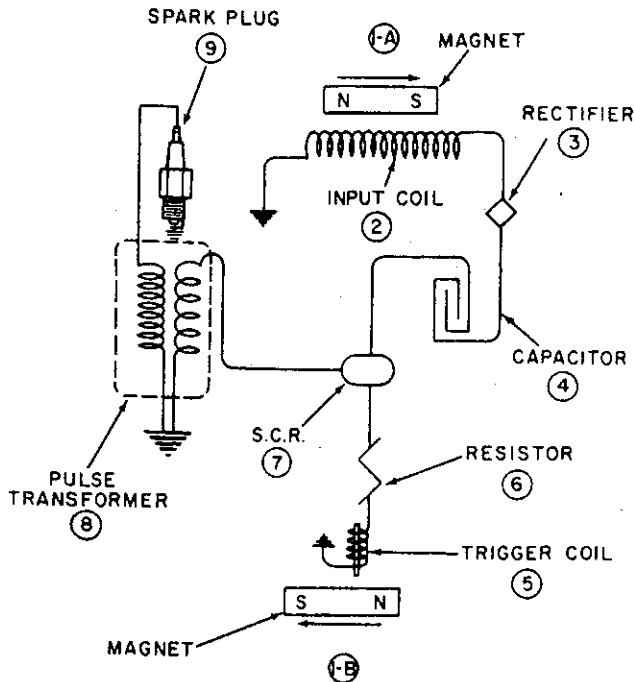

Figure 32
- A. Description of operation. Numbers in parentheses refer to Figure 32. As the (1-A) flywheel magnet passes the (2) input coil, a low-voltage A.C. current is induced into that coil. The current passes through a (3) rectifier, converting this current to D.C. It then travels to the (4) capacitor where it is stored. The flywheel rotates approximately 180° and as the (1-B) magnet passes the (5) trigger coil, it induces a very small electric charge into that coil. The charge passes through the (6) resistor and turns on the (7) silicon-controlled rectifier (solid-state switch). With the (7) silicon-controlled rectifier closed, the low voltage stored in the (4) capacitor travels to the (8) pulse transformer. Here the voltage is stepped up instantaneously and it is discharged across the